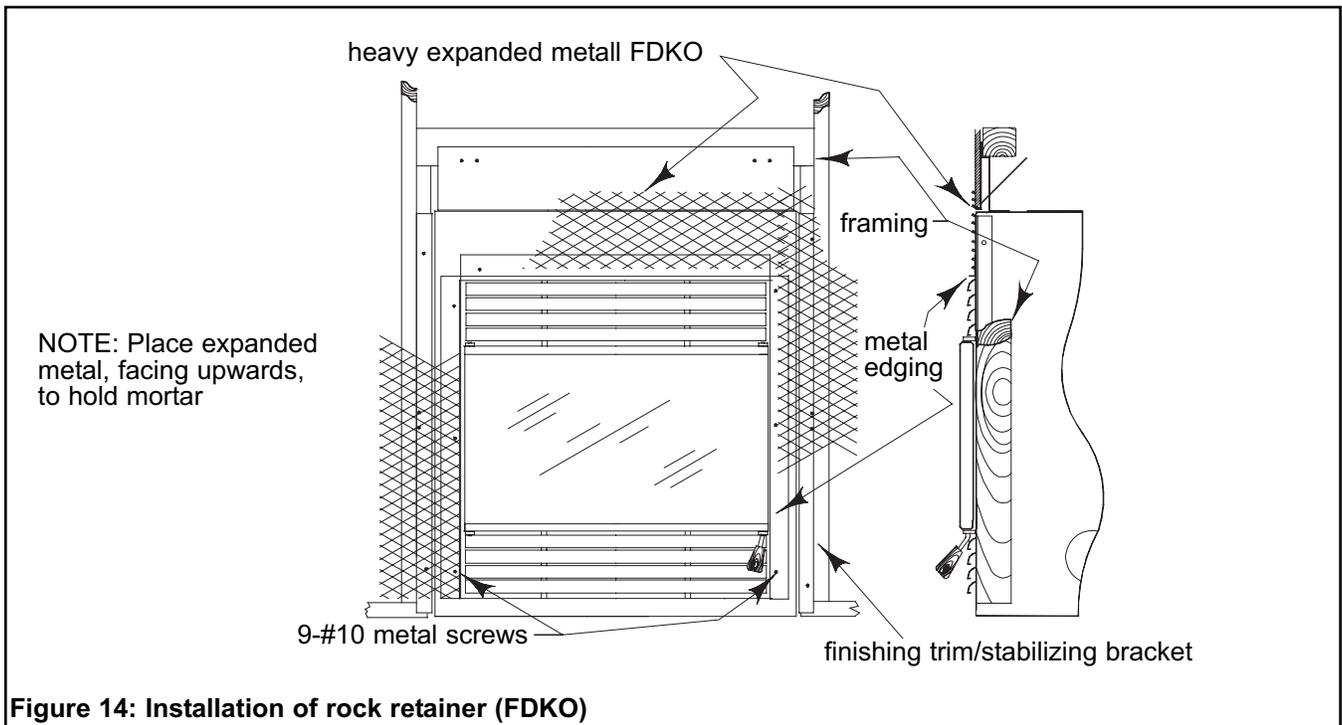

Figure 14: Installation of rock retainer (FDKO)
If you desire to fully face the fireplace with thin masonry, it is recommended that you purchase the rock retainer kit (part FDKO). This kit is NOT recommended for brick or other self-supporting materials. Follow these steps and refer to Figures 14 & 15.
1. Install the heavy expanded metal on the face above and beside the door and louvers using drill-and-tap screws. There are right and left side expanded metal pieces. The expanded metal is correctly installed when the expanded metal is facing upwards, to catch the mortar (See Figure 14).